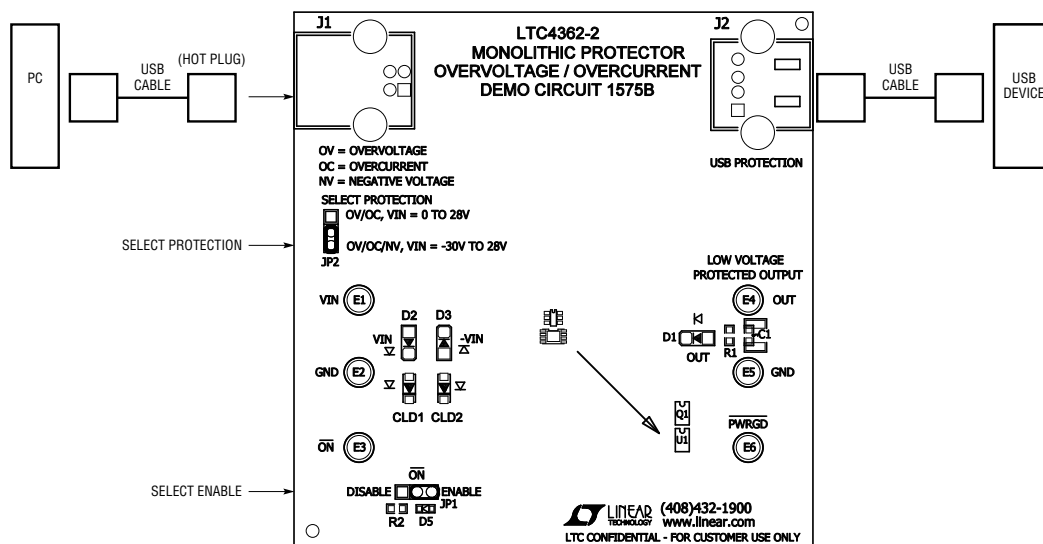

Figure 2. DC1575B USB Protection Setup
- 5) For USB protection, connect a USB cable from J2 to the USB device (Figure 2). Select the protection type at JP2. Connect a second USB cable from a computer to J1.